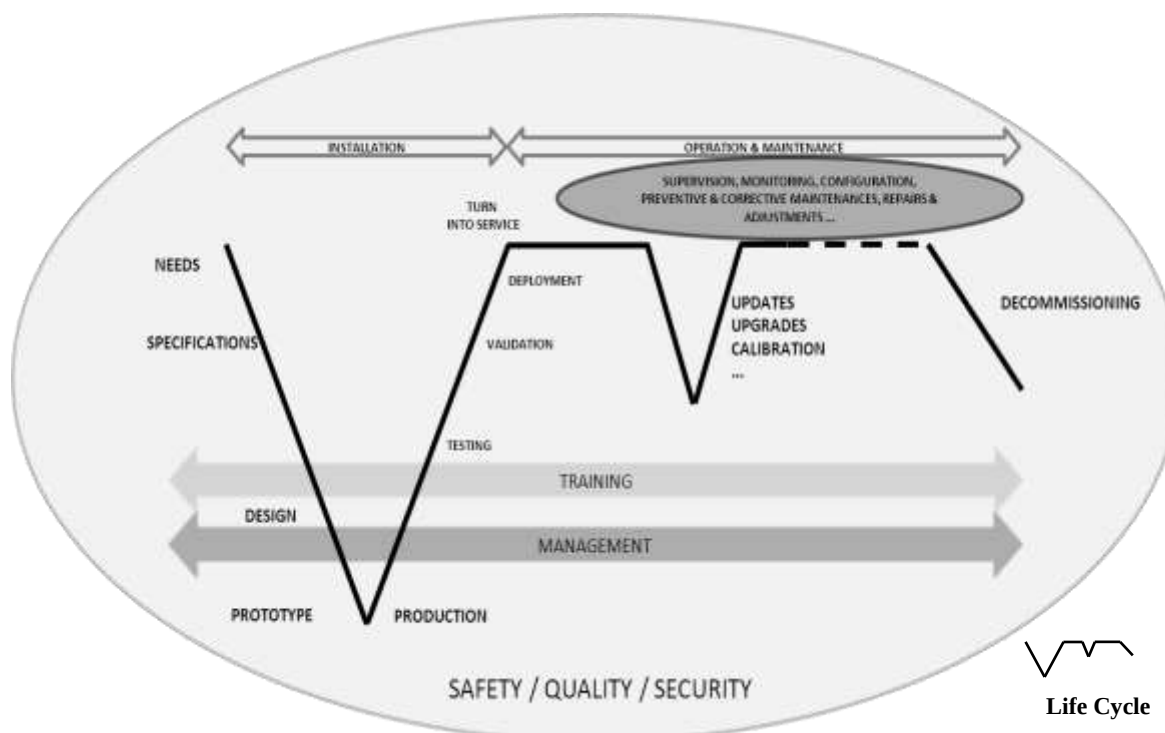

Figure 1.1. Scope of ATSEP activities
(1) Regulatory Environment:
(2) ATSEP Scope of activities
- (b) Figure 1.1 below illustrates the possible scope of ATSEP activities using as a basis the engineering lifecycle from system conception through design, operations and finally decommissioning.
- (c) The ATSP is responsible for determining the scope of its ATSEP activities by selecting the activities from within the possible scope depicted in Figure 1-1.